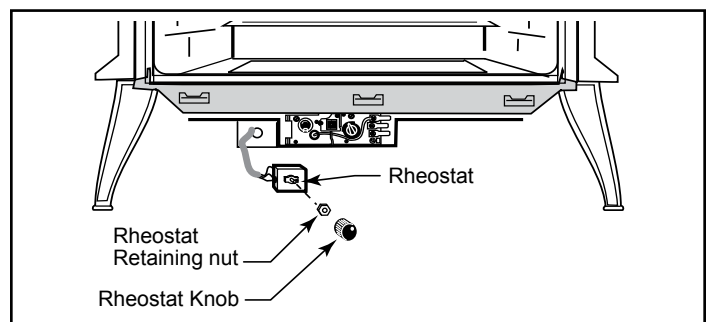

Figure 57 - Attach fan rheostat.
4. Pass the rheostat cord under the firebox. The rheostat control switch attaches to the left side of the valve bracket at the front of the stove. (Figure 57)